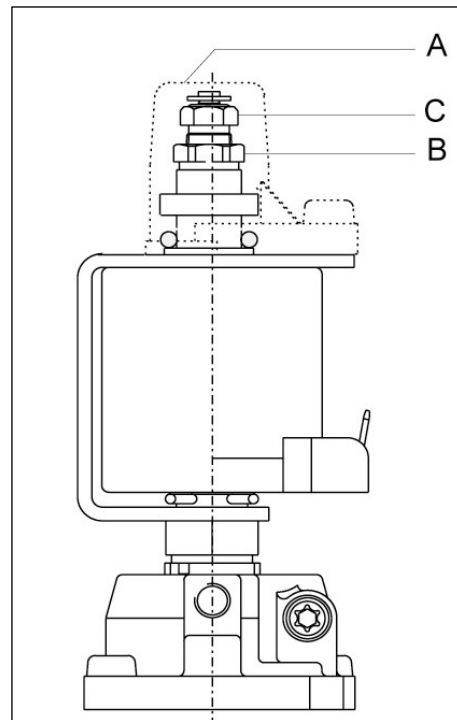

Fig. 31: Section of modulating lifting magnet
4. Take off the plastic cap **A** (see Fig. 31, page 31) from the lifting magnet.
10. Push the "+/-" button (**button block "B"**) so that the measured nozzle pressure will be 0.1 kPa below the **required minimum value** (e.g. 0.5 kPa). If the value cannot be adjusted, the **mechanical limitation** at the lifting magnet (large adjusting screw **B**, Fig. 31) needs to be amended. Afterwards continue with adjusting to the required minimum value
11. To adjust the maximum pressure, the jumper has to be switched to "Max". With the "+/-" buttons adjust the value to 0.1 kPa above the **required maximum pressure** (e.g. 0.88 kPa). In case the value cannot be adjusted the **mechanical limitation** of the lifting magnet (small adjusting screw **C**, Fig. 31) needs to be amended. Afterwards continue with adjusting to the required minimum value.